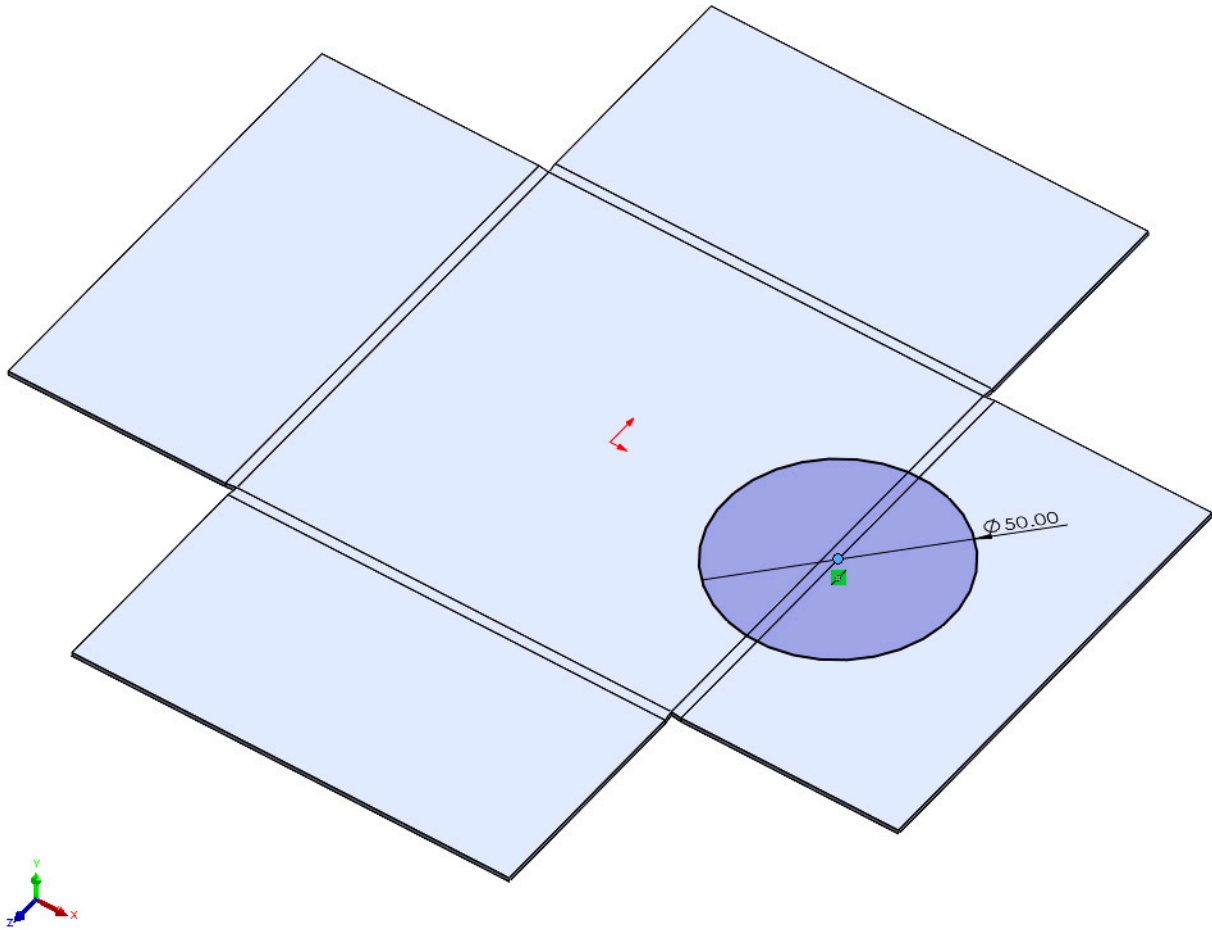

Figure 5.6: Creating a circle sketch on the top face of the unfolded part
2. Start a sketch on the top face of the *part* and use the **Circle** tool to draw a **50mm**-diameter circle that straddles one of the bend areas, as illustrated in *Figure 5.6*. Note: you can use the **Midpoint** Relation along the bent edge to anchor the circle in place: